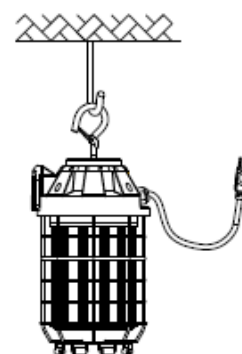

Figure 2
**STEP 3:** Hang the fixture to a ceiling hook or similar. (Figure 2)